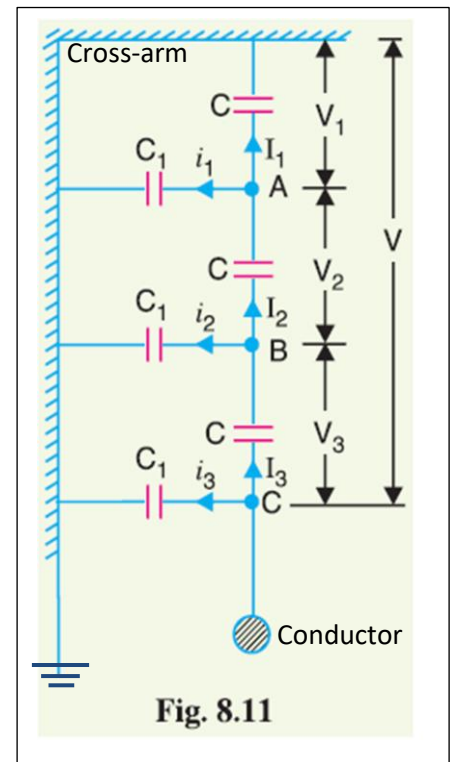

Fig. 8.11
**8.6 Mathematical expression.** Fig. 8.11 shows the equivalent circuit for a 3-disc string.